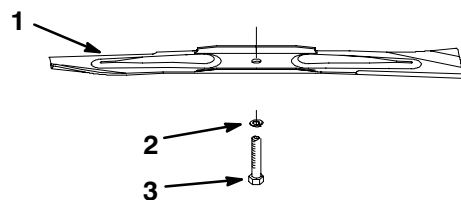

Figure 20
- Remove the blade bolt, the lockwasher, the accelerator, and the blade (Fig. 20).